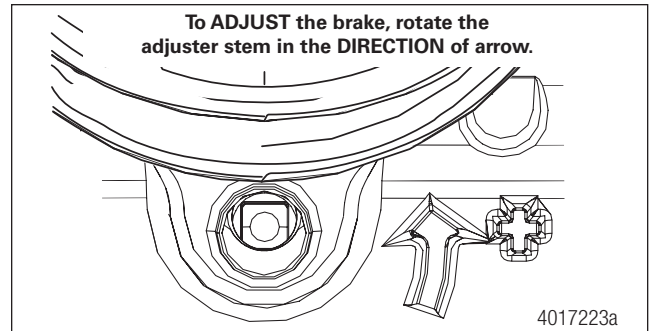
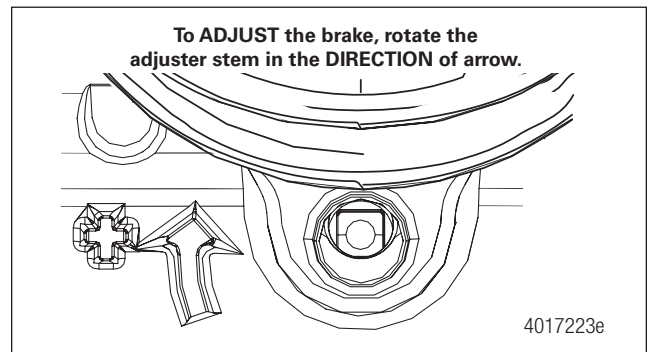
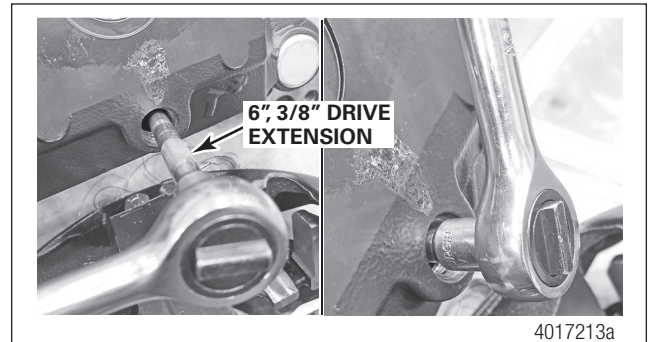

Figure 6.25 Adjustment Arrow Cast into the Caliper Housing (RH)
Figure 6.26 Adjustment Arrow Cast into the Caliper Housing (LH).
Figure 6.27 Use wrench with 6", 3/8-drive extension to rotate adjuster stem.
2. Use a six-inch (6") standard 3/8" drive extension on a hand-held wrench to rotate the manual adjuster stem IN DIRECTION OF ARROW CAST INTO BACK OF HOUSING so that the brake pad-to-rotor clearance is ZERO. Figure 6.25, Figure 6.26 and Figure 6.27.